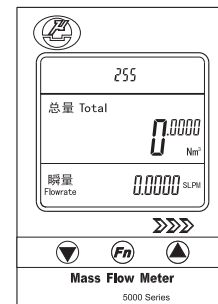
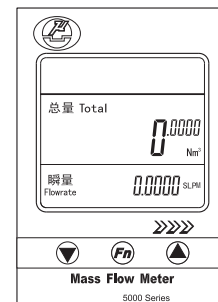

Figure 6-9 Multi-device communication mode
Figure 6-10 Single-device communication mode
(4) Communication Modes switches (Figure 6-9, Figure 6-10)
- Set the address of the meter (value of **SET Addr**) as (3).E. such as 255;
- Set the meter to *Multi-device communication mode* (select value of **PrOTOCOL** to P1--255 or P2--255) as (3).D;
- Set the meter to *Single-device communication mode* (select value of **PrOTOCOL** to P0--000) as (3).D;